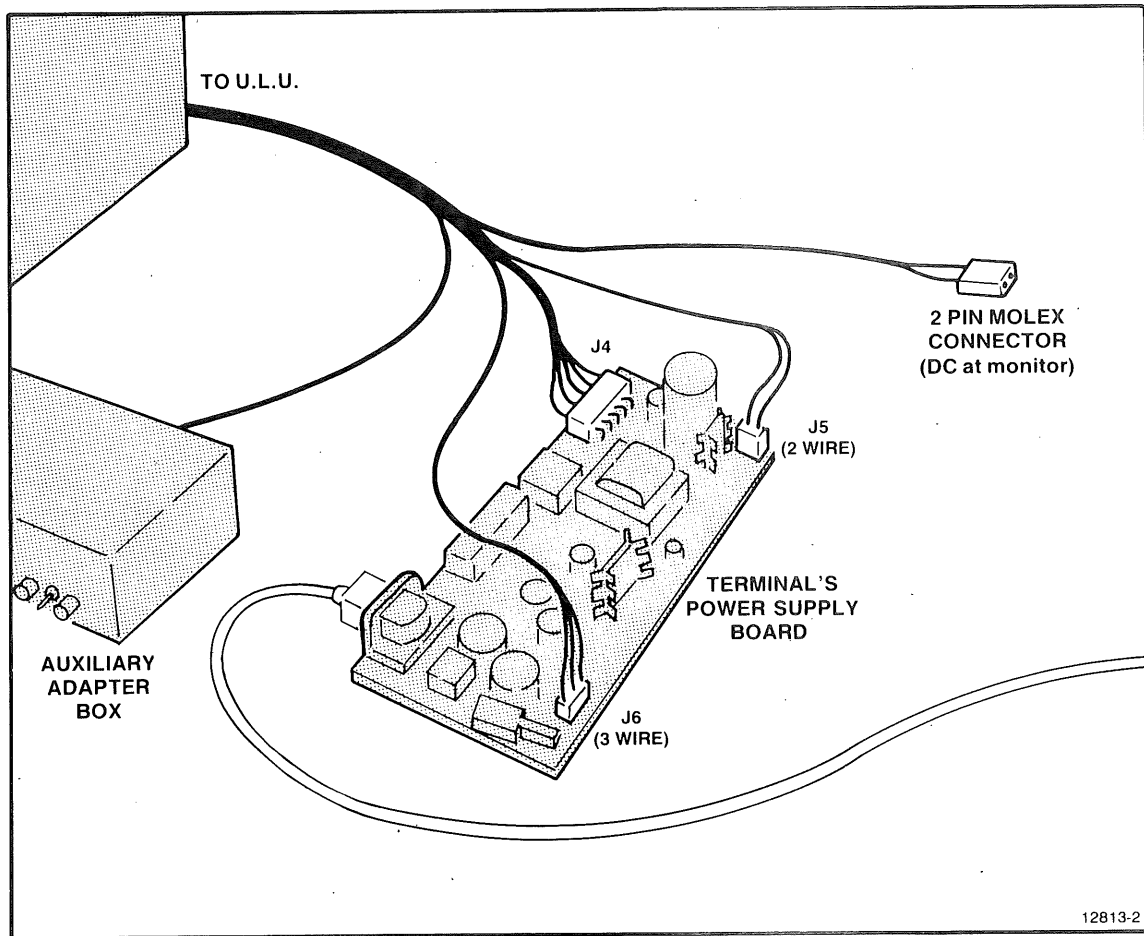

Figure 3-2. Connecting the Terminal to the Universal Load Unit and Auxiliary Box.
6. Figure 3-2 shows how the cable harness is connected.